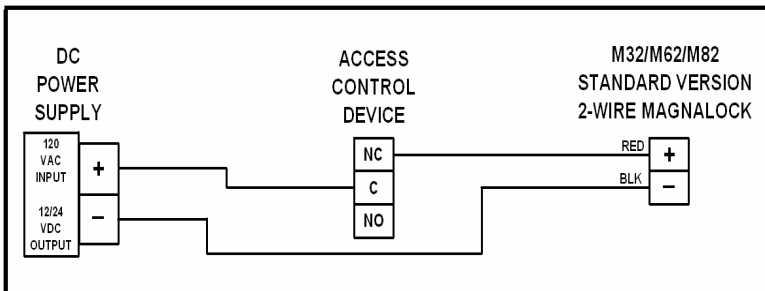
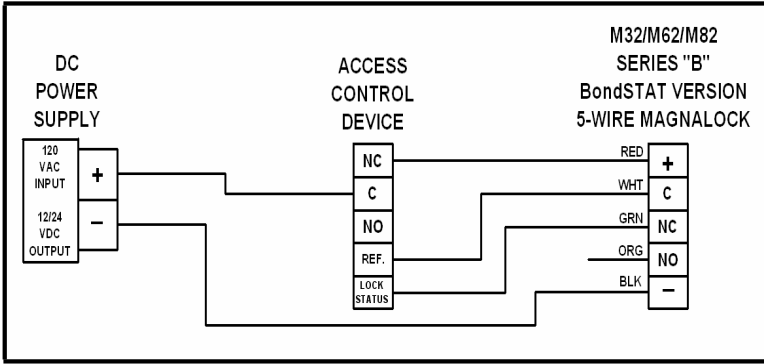
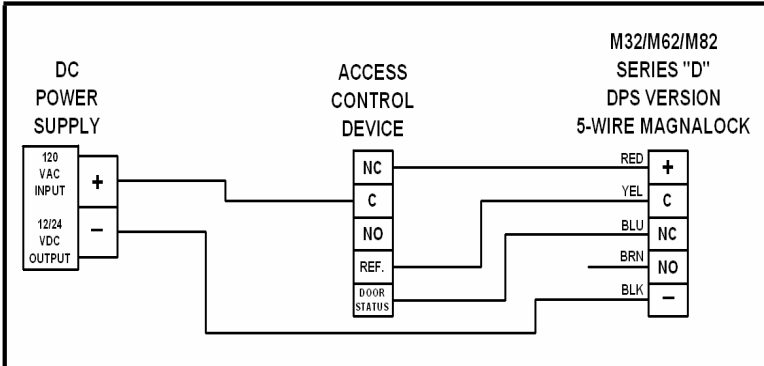
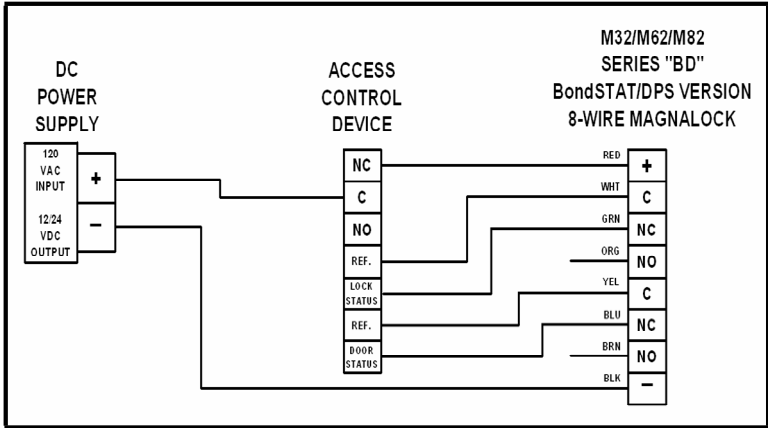

Figure 20. Typical Magnalock Wiring
Figure 21. Connections for BondSTAT "B" Version
Figure 22. Connections for DPS "D" Version
Figure 23. Connections for “BD” Version
- CONNECT the wiring per Figure 20, "Typical Magnalock Wiring," Figure 21, "Connections for BondSTAT 'B' Version," Figure 22, "Connections for DPS 'D' Version," and Figure 23, "Connections for 'BD' Version."
NOTE 1: In Figure 21, the green and white wires supply electrical connection when the lock is ON and secure.
NOTE 2: In Figure 21, the orange and white wires supply electrical connection when the lock is OFF or unsecure.
NOTE 1: In Figure 22, the blue and yellow wires supply electrical connection when the door condition is closed.
NOTE 2: In Figure 22, the brown and yellow wires supply electrical connection when the door condition is open.